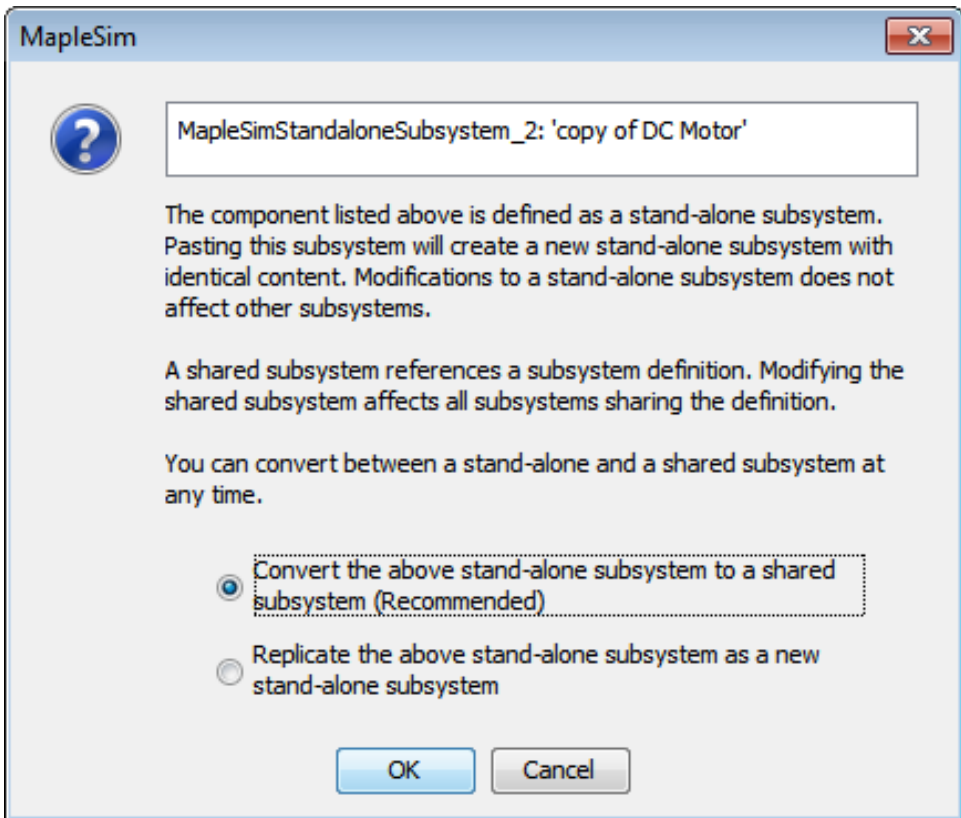

Figure 2.13: Copy Subsystem Dialog
1. In the **Model Workspace**, copy and paste the **copy of DC Motor** standalone subsystem. A dialog box appears. (See **Figure 2.13**.)